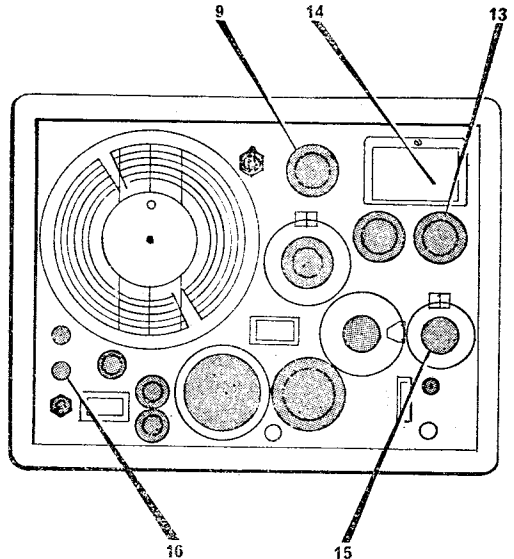

Fig. 11. Amplitude modulation
20. Amplitude modulated (internal). Set the instrument as in paragraph 19, and then refer to figure 11. Switch —9 to 400Hz MOD SET or to 1kHz as required and adjust the “set mod” control —13 to bring the meter from the set c.w. to the set mod position —14. Switch —9 to the adjacent “use” position. Adjust the percentage mod control —15 to the required modulation depth.
21. Amplitude modulated (external). Set the instrument as in paragraph 19, and then refer to figure 11. Switch —9 to EXT MOD SET. Connect the modulating signal to the ext mod sockets —16 (about 6V is needed). Adjust the set mod control —13 to bring the meter to the set mod mark —14. Switch —9 to EXT MOD USE. Adjust the percentage mod control —15 to the required modulation depth.